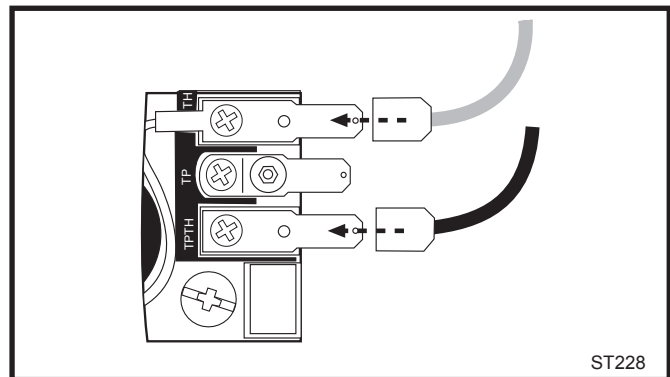

Fig. 17 Attach switch wires to valve.
3. Attach wires to valve terminals. (Fig. 17)
2. Connect the thermostat wires to the valve. (Fig. 17)